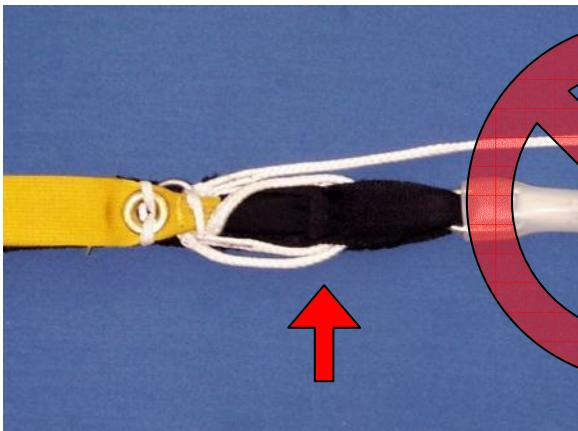

*Figure 4. – Attaching the half rubber band.*
1. Cut a large or small rubber line stow band in half lengthwise. Thread the half rubber band through the fabric loop that connects the metal guide ring to the riser and secure it with a larks-head knot as shown in *Figure 4*.